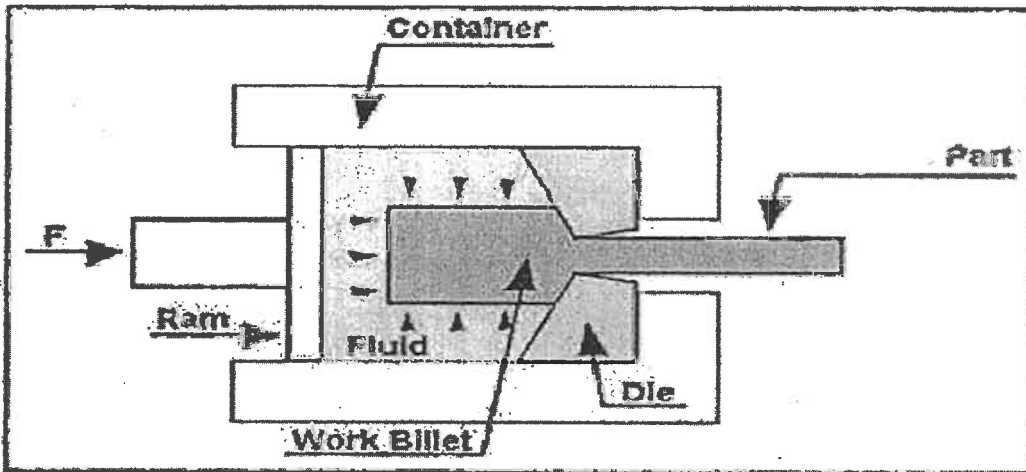

Fig. S1
- (a) Describe the process shown in Figure S1.